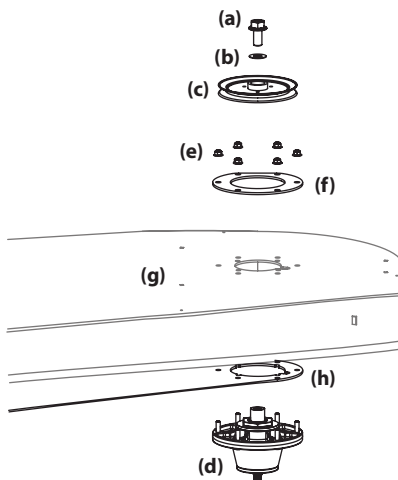

Figure 4-28
- Remove the hex flange bolts (a) and flat washers (b) securing the left and right spindle pulleys (c) to the spindle assembly (d). See Figure 4-28.
- Remove the six (6) flange lock nuts (e) securing the left and right spindle assemblies (d) and the support plates (f) to the deck shell (g). See Figure 4-28.
- Reverse the process to install the spindle assembly. When installing the new spindle assembly be sure to install the hardware exactly as shown in Figure 4-28. Torque the hex flange bolts to 250 ft-lbs and the flange lock nuts to 21-32 ft-lbs.